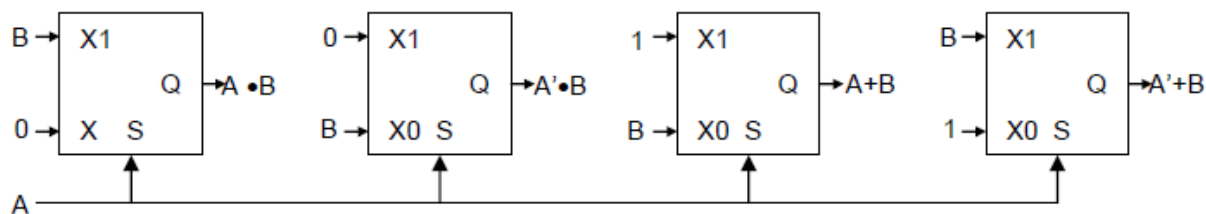

Fig. 3.3 Boolean Functions of A and B using a quad 2-input Multiplexer
3. Note that though the two 8-input multiplexers **MUX₀** and **MUX₁** require 16 inputs, they involve only 6 distinct Boolean functions of A, B, C – $A \cdot B, A' \cdot B, A + B, A' + B, A \oplus B$ and $A \oplus B \oplus C$. The first four terms are realised by four 2-input multiplexers as shown in **Fig. 3.3**. This implementation requires only one chip, whereas any implementation using gates would need more, as a single gate chip contains only one kind of gate (AND/OR/NAND/NOR). Assemble the circuit given in **Fig. 3.3** and verify its operation by actual tabulation of the observed outputs for all combinations of values of A and B applied from two Input Switches.